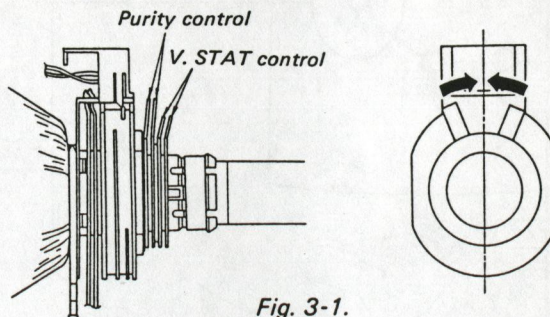

Fig. 3-1.
- 3 Loosen the deflection yoke mounting screw, and set the purity control to the center as shown in Figure 3-1.